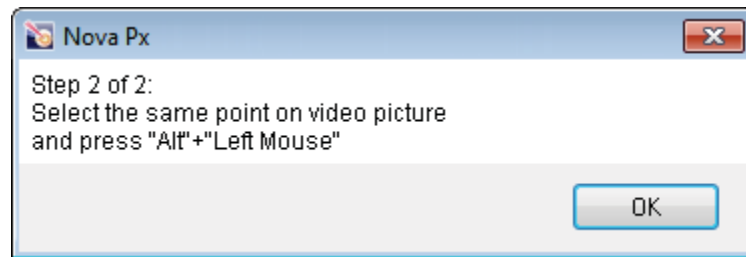

Fig. 7-20
- When the sample carriage stops, a request on pointing to a desired point will appear again (Fig. 7-20). Close this box by clicking the **OK** button.